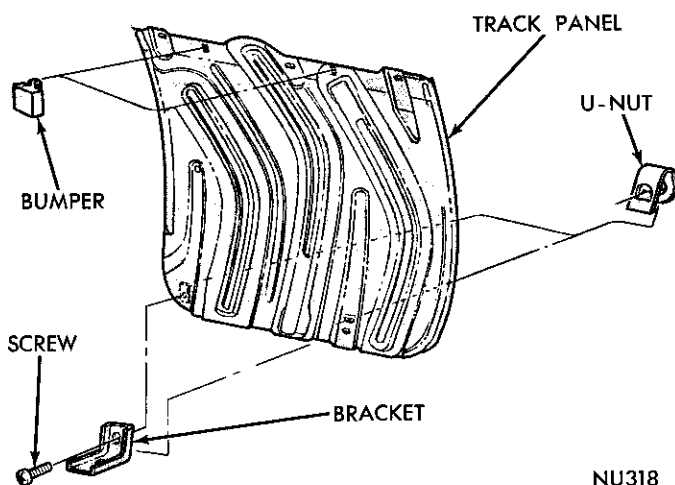

Fig. 66—Track Panel Assembly
(10) Remove U-nuts from outer side of track panel and bumpers from top inner side (Fig. 66).